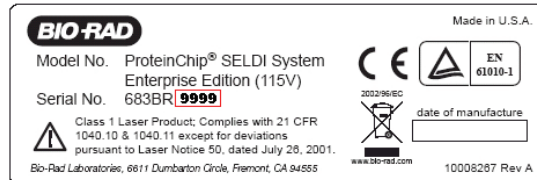

Fig. 27: The reader serial number.
- Record the reader's hostname. The format of the hostname is pcs4000-xxxx, where xxxx are the last 4 digits from the serial number, as shown in Fig. 27. You will find the serial number on the reader itself on lower left side (when facing the front of the reader).